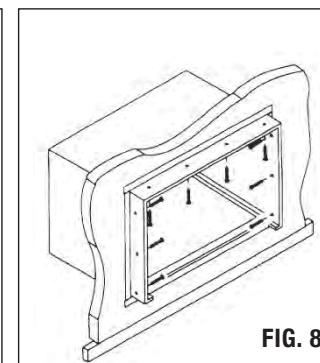

FIG. 8
5. Screw or nail cabinet wooden frame using shims, if frame is oversized, to eliminate distortion. (See Fig. 8.) Remember to maintain proper slope, as described in Step 3.